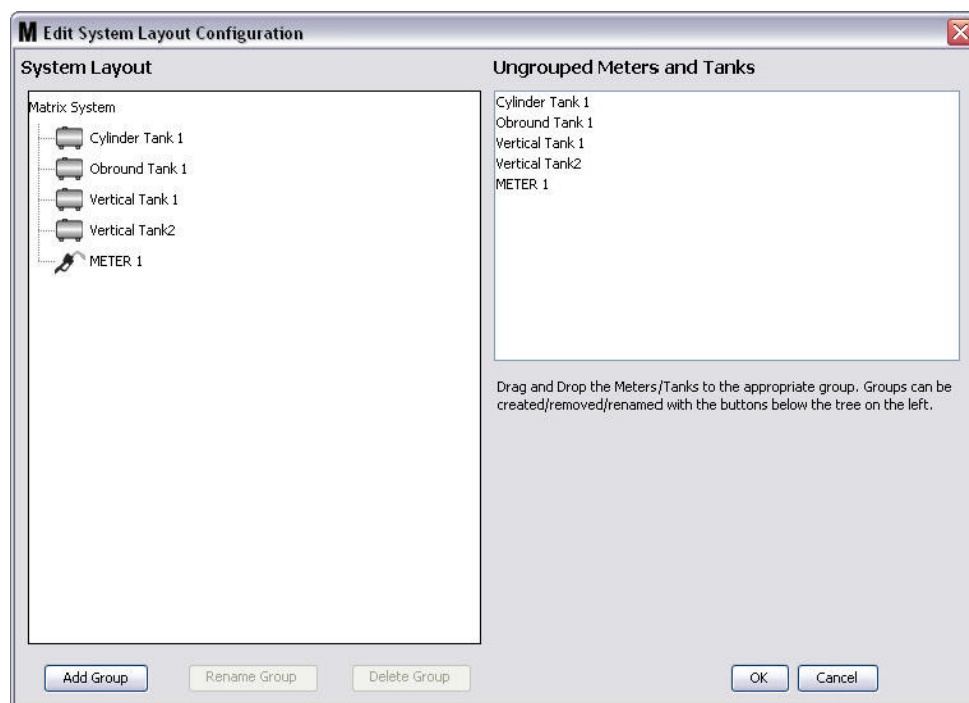

FIG. 125
3. The Edit System Layout Configuration screen shown in FIG. 125 displays.
4. Click the Add Group button (FIG. 125) to create a new device group.